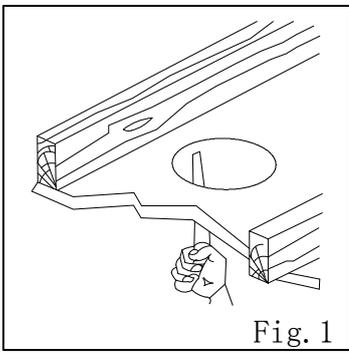

Fig. 1
1. Cut a diameter  $\varnothing 150\sim 160$ mm hole (6") in the ceiling. (Fig.1)